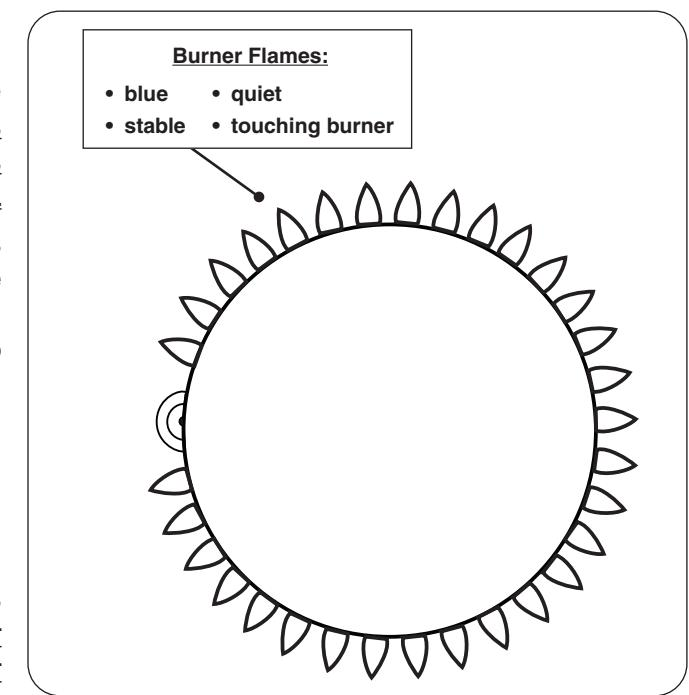

Fig. 35-1 Proper flame appearance
**Note:** To verify proper settings, the flames of the burners should be visually checked for proper flame appearance and behavior. Light the unit with the burner(s) on HI setting. Allow at least 2 minutes to burn. See below and Fig. 35-1. The flames should: